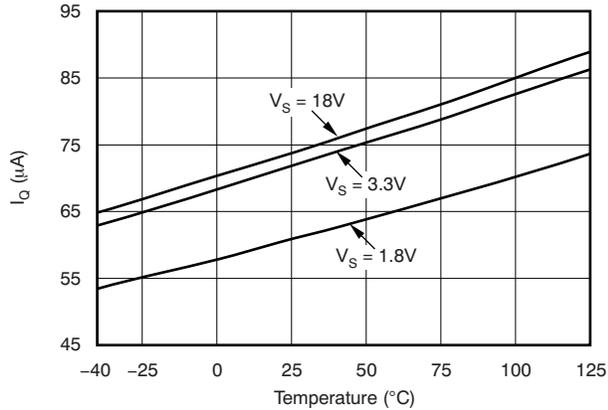

Figure 1.
(1) 100% of production is tested at $T_A = +85^\circ C$. Specifications over temperature range are ensured by design.
(2) See Figure 1 for typical quiescent current.
(3) Available Q4, 2007.